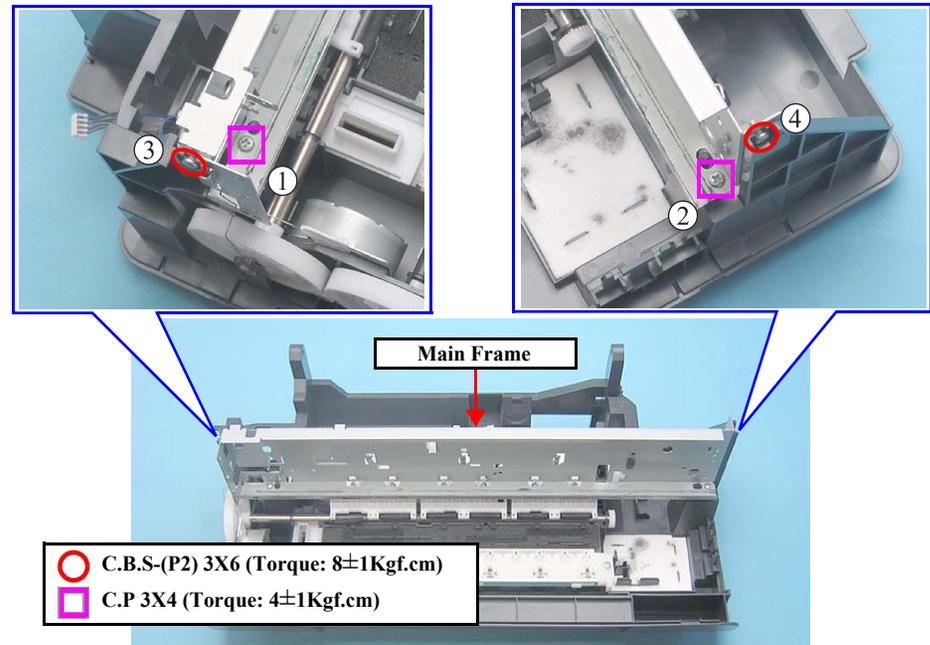

Figure 4-56. Removing Main Frame (1)
- When securing the Main Frame to the Frame Base with screws, be sure to perform the tightening in the order of the numbers indicated in Figure 4-56 (p.56).